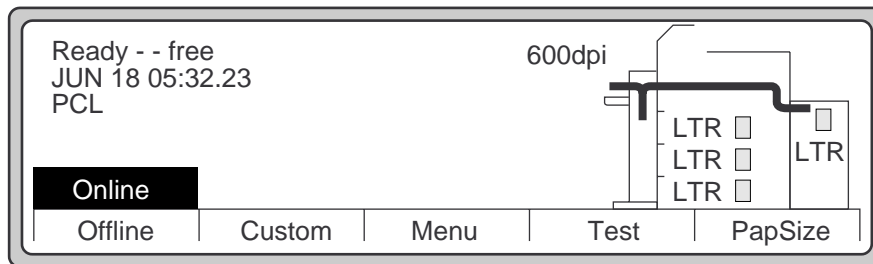

Figure 6-3 Main Screen
2. Press the Test button on the Main Screen, shown in Figure 6-3.